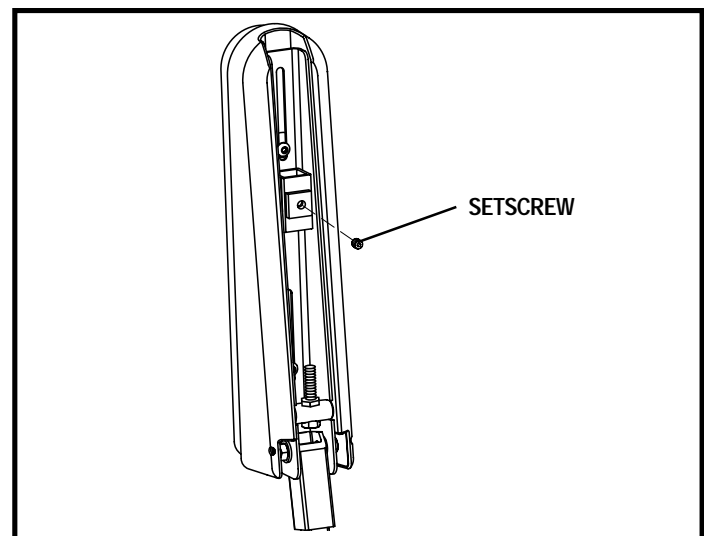

Figure 17. Underside of Armrest
2. Loosen the setscrew on the controller bracket. See figure 17.
5. Flip up the armrest and loosen the setscrew. See figure 17.